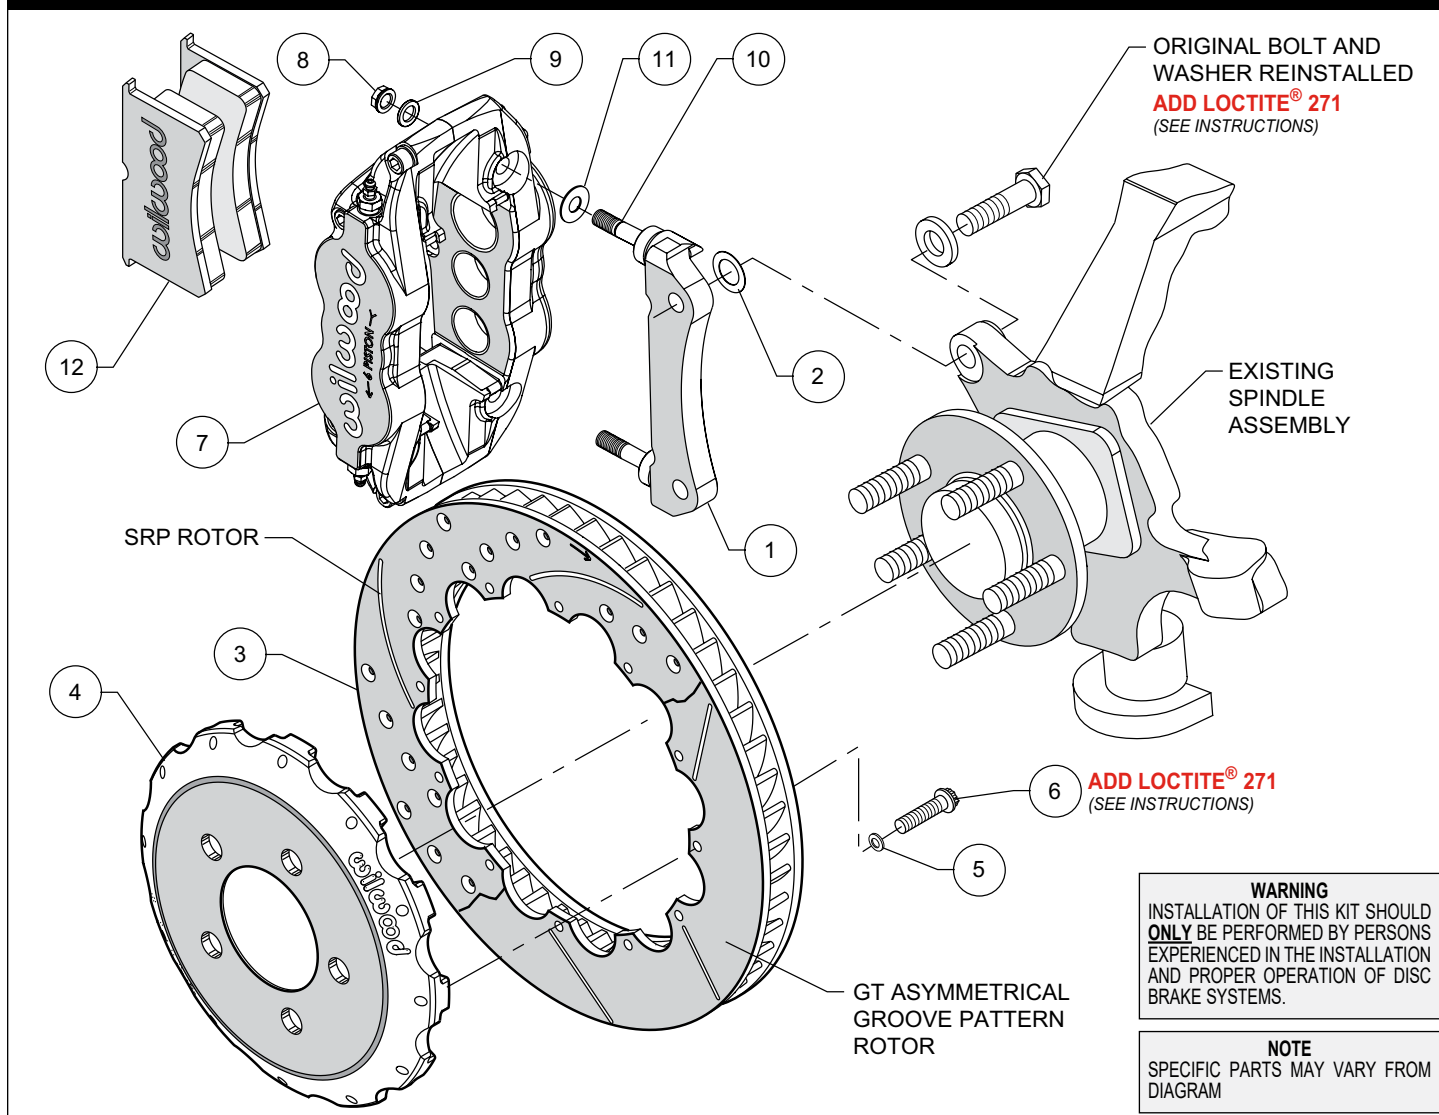
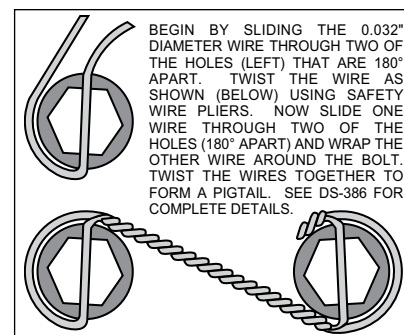

Figure 1. Typical Installation Configuration
Figure 3. Safety Wire Diagram
- Assemble the rotor (3) to the hat (4) with the bolts (6) and washers (5) as indicated in the configuration pictured in Figure 1. Apply red *Loctite*® 271 to the bolt threads and torque to 155 in-lb using a criss-cross pattern. For an added measure of security, the bolts may be safety wired using standard 0.032 inch diameter stainless steel safety wire as shown in Figure 3. Please refer to Wilwood's data sheet DS-386 (available at www.wilwood.com/Pdf/DataSheets/ds386.pdf) for complete safety wire installation instructions.